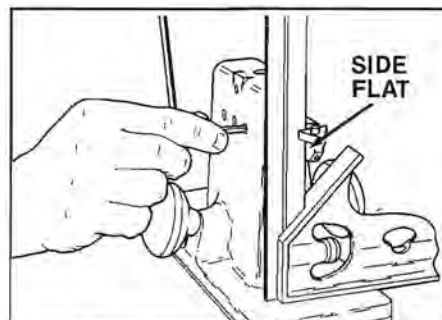

Figure 2. Align the cutter support.
cutter support (58). Place an accurate combination square against the base (37) and one of the cutter support side flats. Adjust the cutter support so the side flat is against the square. Tighten the two cutter support setscrews (43). (See Figure 2.) Replace the follower support on the follower upright and reposition the cutter guide.